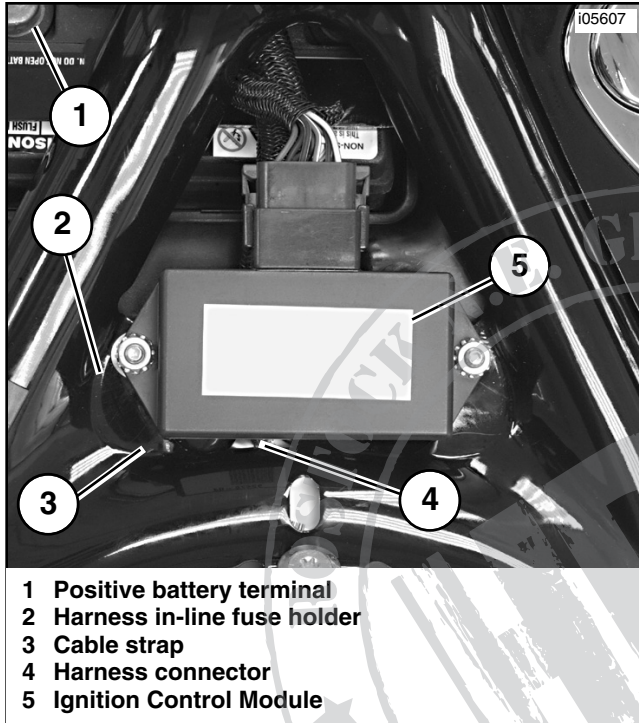

Figure 4. Sportster Battery Harness Routing (2004 and Later Models)
1. See Figure 4. Route the harness/ connector (4) toward the rear of the bike following the upper left frame tube. Cleanly tuck the in-line fuse into the space on the side of the battery.
2. Locate the B+ (battery positive) connector (a Red wire with an unused Gray connector) on the main electrical harness, routed under the seat, beneath the Ignition Control Module (5). Secure the harness battery connector close to the B+ connector with a cable strap (3). Trim any excess from the cable strap.